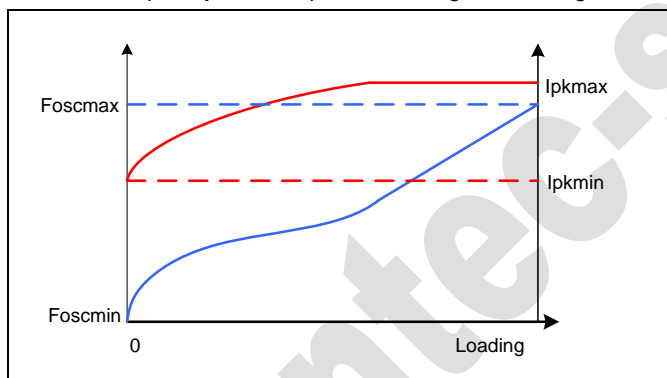

Figure 7. Fosc and Ipk vs. Loading
In order to trade off among different characteristics such as efficiency, no-load standby, audio noise, ripple, a mixed PWM/PFM operation mode is employed in GT5010A. Under constant voltage (CV) mode, from middle load to full load, the system with GT5010A operates on a pure PFM mode; from middle load to no-load, the system operates on a combined PWM/PFM mode. **Figure.7** illustrates the trend of frequency and CS peak following load-change.